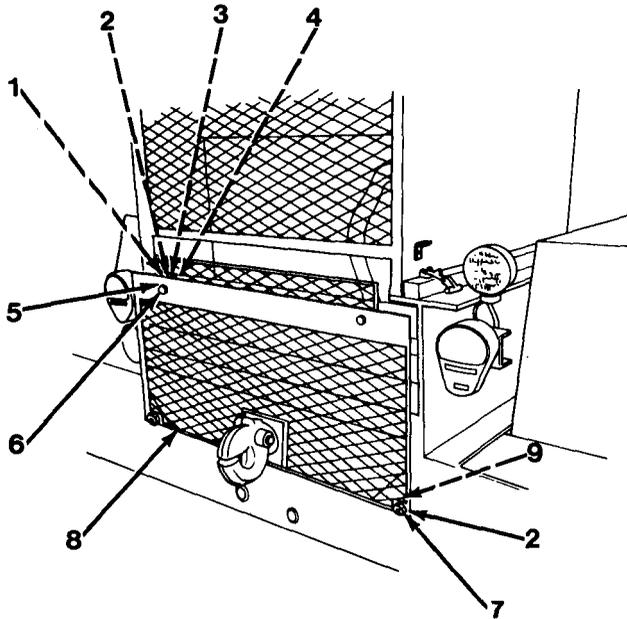

Figure 14-1
1. Remove two nuts (1), washers (2), washers (3), bosses (4), washers (5) and socket head capscrews (6, Figure 14-1).
2. Remove two nuts (7), washers (2), grill guard (8) and two bosses (9).